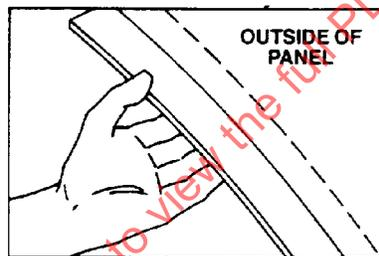

FIGURE 7—ASSEMBLE AND POSITION BONDING STRIPS
**5.2 Partial Panel Replacement**—Use a cut-off wheel to cut out the damaged parts of panels (according to OE manufacturer recommendations). Cut and fit a new partial panel to replace the damaged section. Use parts of the old section to make bonding strips to provide structural support for the replacement panels. The bonding strips should conform to the original contour and overlap the seam between new and old panels by 2 in. Clean all areas to be bonded (see Step 3). Scuff sand the surfaces of all areas to be bonded using grade 80 discs. Clean off the repair area with a clean, dry rag and air hose then clean with a plastic cleaner. Apply a SMC panel adhesive compound to the backside of the panel and bonding strips to be bonded. Assemble and position the bonding strips, clamping where necessary. (Figure 7)